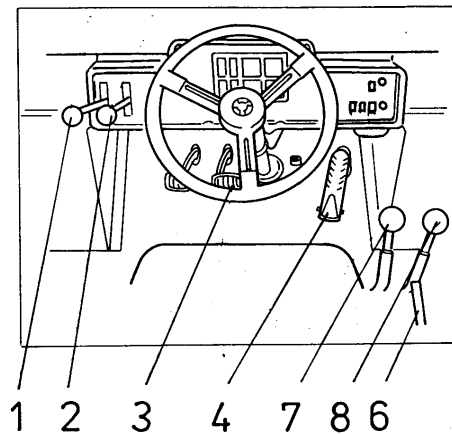

Fig. 4.24. Driving and Stopping the Machine (Standard Version)
4. Apply parking brake (6).
5. Place bucket control lever (7, Fig. 4.24 or 5, 4.25) in the detented position - bucket roll back.
6. Push forward boom control lever (8, Fig. 4.24 or 5, 4.25) to lower the boom and rest the bucket on the ground. The bucket will be leveled automatically.